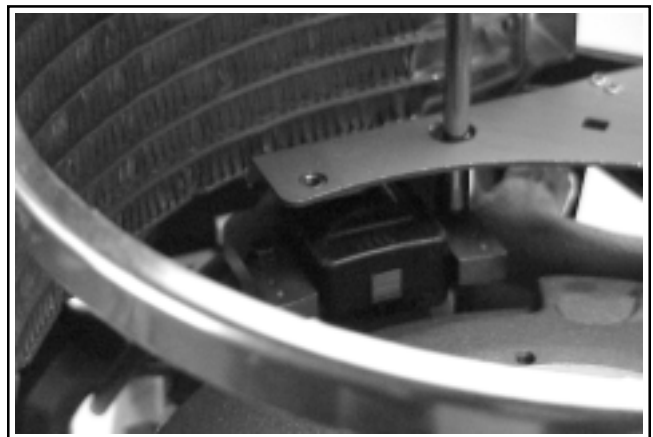

Figure 9-26. Removing Inner Ignition Module Mounting Screw.
2. Remove the mounting screws securing the ignition module. Access the inner screw through the hole in the main support bracket. See Figure 9-26.